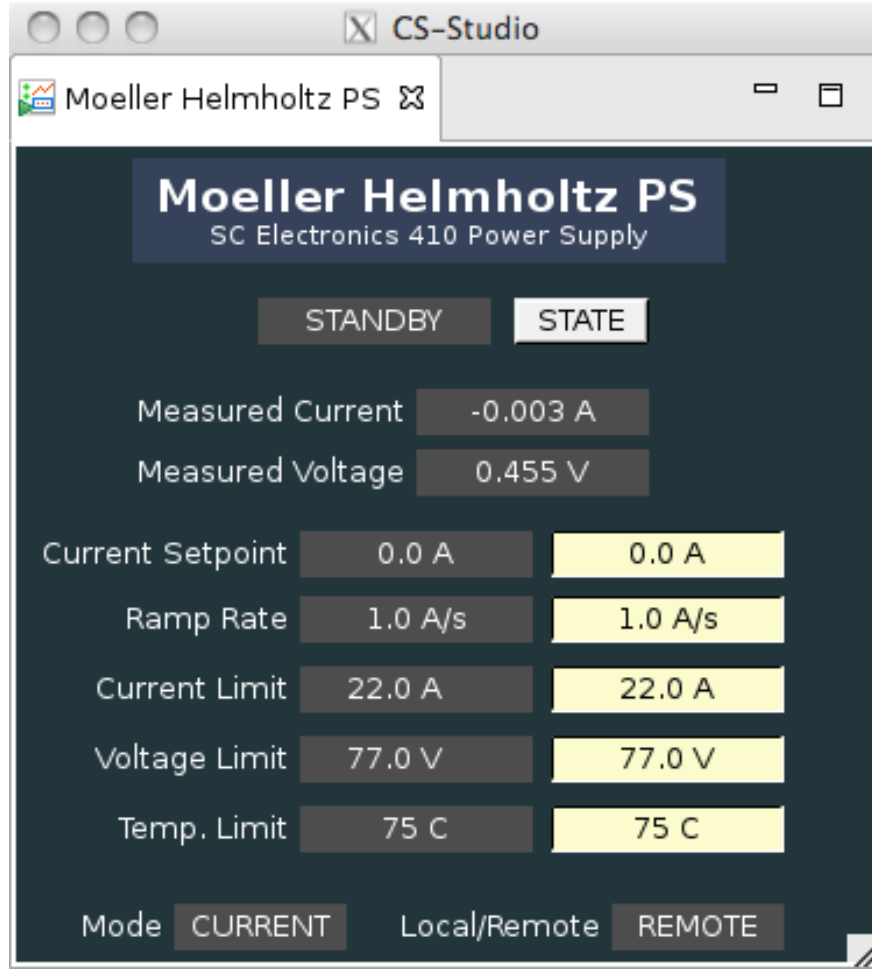

FIG. 4: Control GUI for the Møller target Helmholtz coils power supply.
- (c) The target is polarized to its saturation by a longitudinal (along the beam) magnetic field generated using pair of Helmholtz coils. It is expected that the target will be saturated at ~ 1.8 A current in the coils. The recommended current for Møller measurement is 3 A. A GUI for power supply of Helmholtz coils, "Moeller Helmholtz PS" see Fig.4, has two controls, button "STATE" defines state of the power supply. Typically it will be in "STANDBY" state when is not used. To energize coils first from the menu in "STATE" choose PS ON, then in "Current Setpoint", a white window, write the value, either 3 or -3 . Beam polarization measurements with both orientations the Helmholtz field is recommended to check systematics.